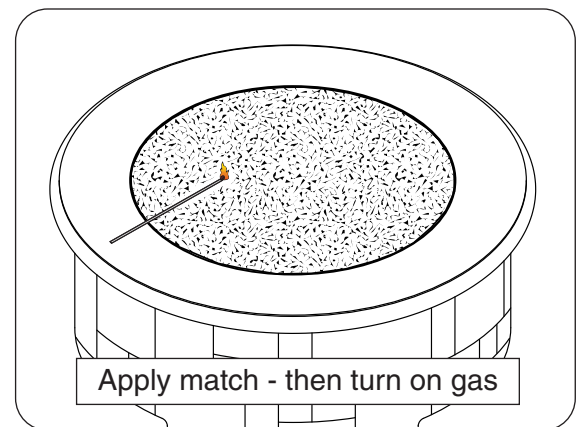

Fig. 51-1
3. Lay a lighted match on the surface of the decorative media near the burner (**do not hold the match in your hand**) (Fig. 51-1).